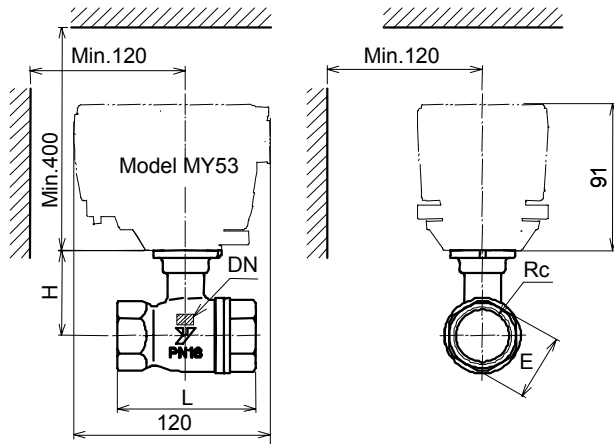

Figure 1. Actuator mounting dimensions (mm)
- 2) Install the valve in a position allowing easy access for maintenance and inspection. Fig. 1 shows the minimum clearance for maintenance and inspection. When installing the valve in a ceiling space, place a drain pan under the valve.